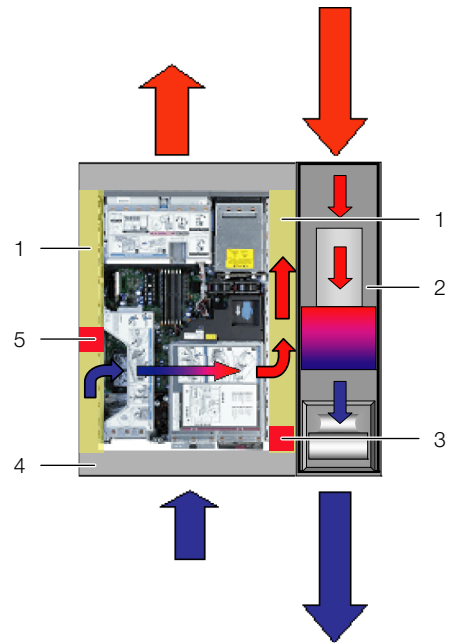

Fig. 12: Placement of foam strips for devices with sideways air throughput (top view)
- If several devices which require sideways air throughput are included, cut out several pieces of the foam strip, as is appropriate, so that, ultimately, there is a cut-out in the foam to the left or right at the height of each such device in the server rack. Ensure that there are no gaps on the hot air side of the devices (fig. 12, item 3).
- Attach the foam strips to the cold air side of the devices set back towards the rear (fig. 12, item 5), making sure that all fans built into the devices can draw air and that none of them are blocked.
The foam strips can be attached between the front and rear uprights of the server rack along the entire depth of the devices with sideways air throughput (fig. 12, item 1).